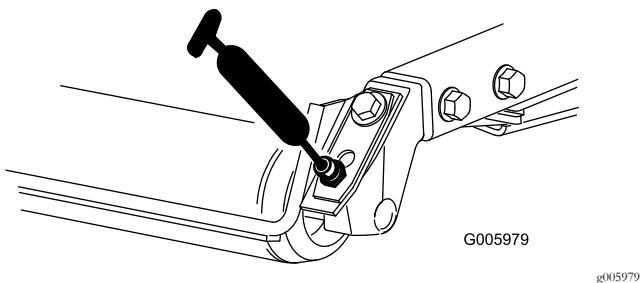

Figure 38
- Rear roller bearings (2 per mower deck) as shown in Figure 38